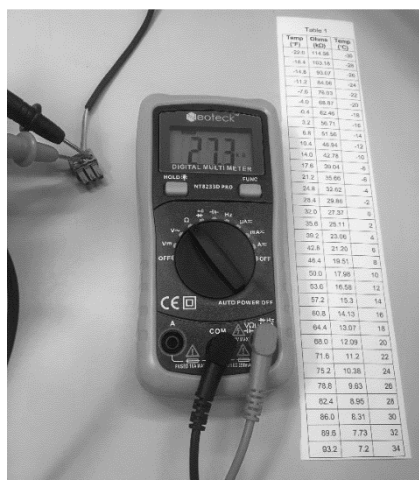

Figure 1
- Use a multimeter and set it to the resistance (Ω) setting. See Figure 1.
- Disconnect the thermistor from the controller, then connect the multimeter to the thermistor. See Figure 1.